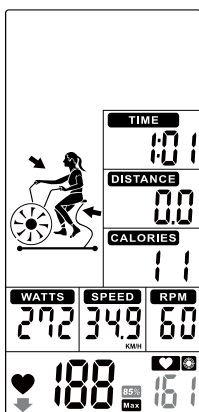

Figure 48
- ⑤ When Heart Rate exceeds to 85%, 85% & value will flash. And buzzer sounds in every 10s until user HR goes below 85% (Figure 48).